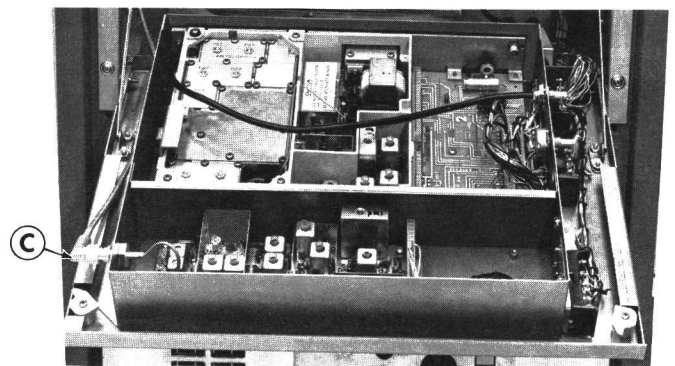

Figure 5 - Exciter Output Cable Location
3. Remove the driver input cable (C) at the exciter. See Figure 5. Leave all four cables connected to the driver assembly.
4. Remove top two screws and four bottom screws (D) mounting the driver to the frame and remove the entire driver assembly.